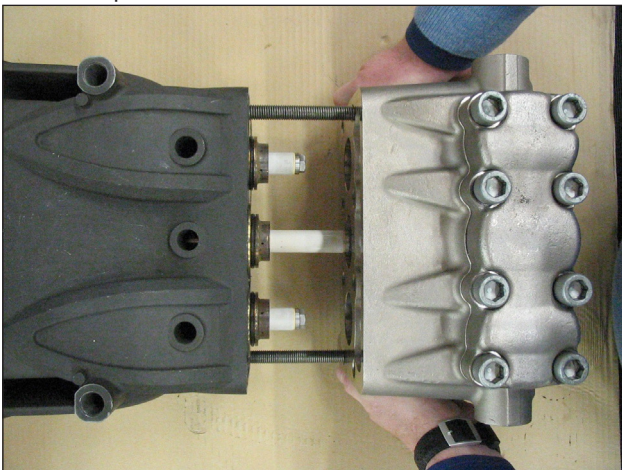

Fig. 33
- B) Lubricate ②③⑤ components with OCILIS silicone grease code 12001600. This operation is also deemed necessary to facilitate adjustment of the lip seal on the piston.
- 2. Using two screws – service pins (code 27508200), fasten the casing as indicated in Fig. 33. Position the complete head, making sure that it is centred only on the central piston.